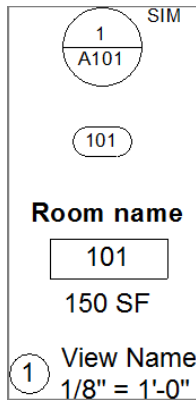

FIGURE 11.48: Populating the legend
- 8. With the Symbol command still running, place a door tag directly underneath the callout head, as shown in Figure 11.48.
- 10. Place a View Title (see Figure 11.48).